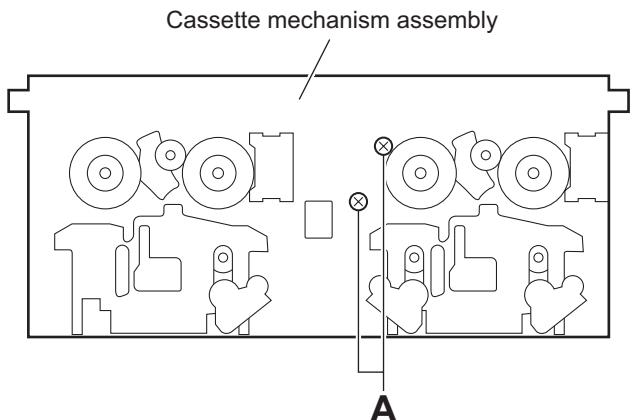

Fig.1
3.3.1 Removing the main motor and replacing the main belts (See Figs.1 and 2)
- From the front side of the cassette mechanism assembly, remove the two screws **A** attaching the main motor. (See Fig.1.)